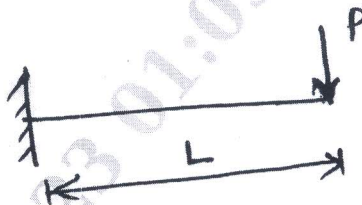

Fig Q7(b)
- b. State and explain Castiglione's I and II theorem. Also find the deflection at free end of the cantilever shown in Fig Q7(b)